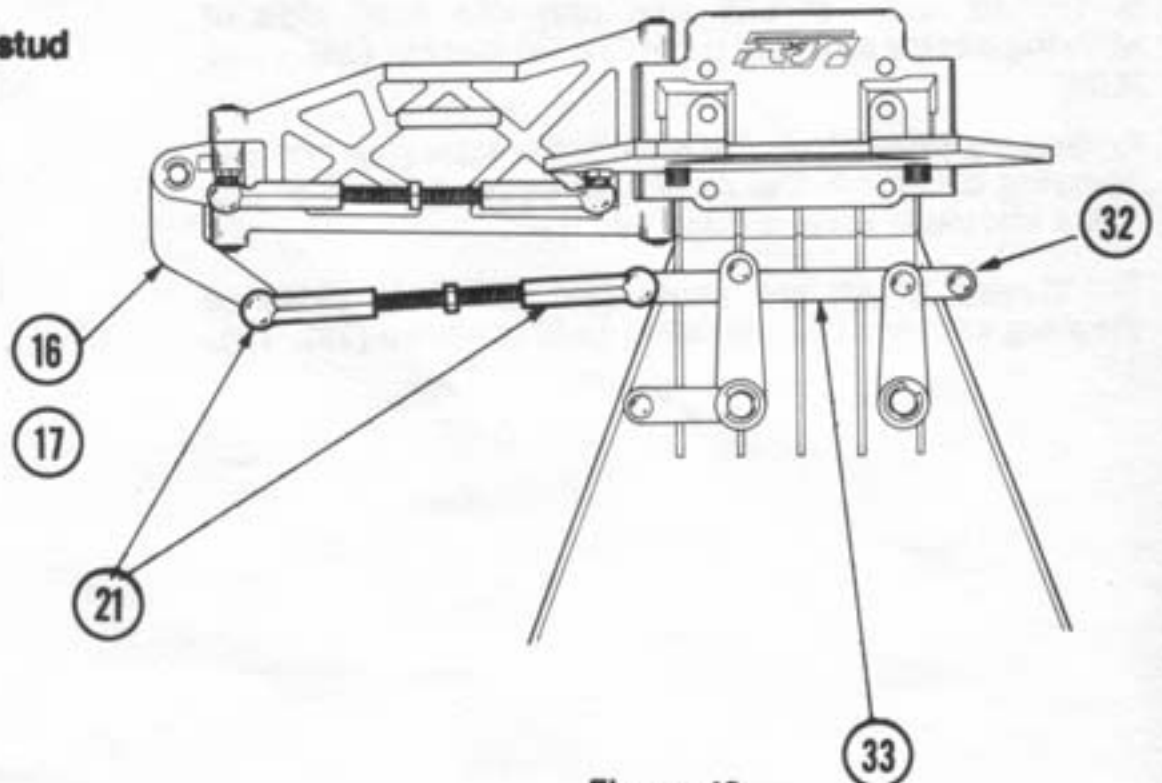

Figure 13
7. Snap one adjustable rod end (21) on the tie rod onto the ball stud (32) on the sector arm (33). Fig. 13
8. Snap the other rod end (21) on tie rod to the ball stud (4) on spindle (16 & 17) arm. Fig. 13